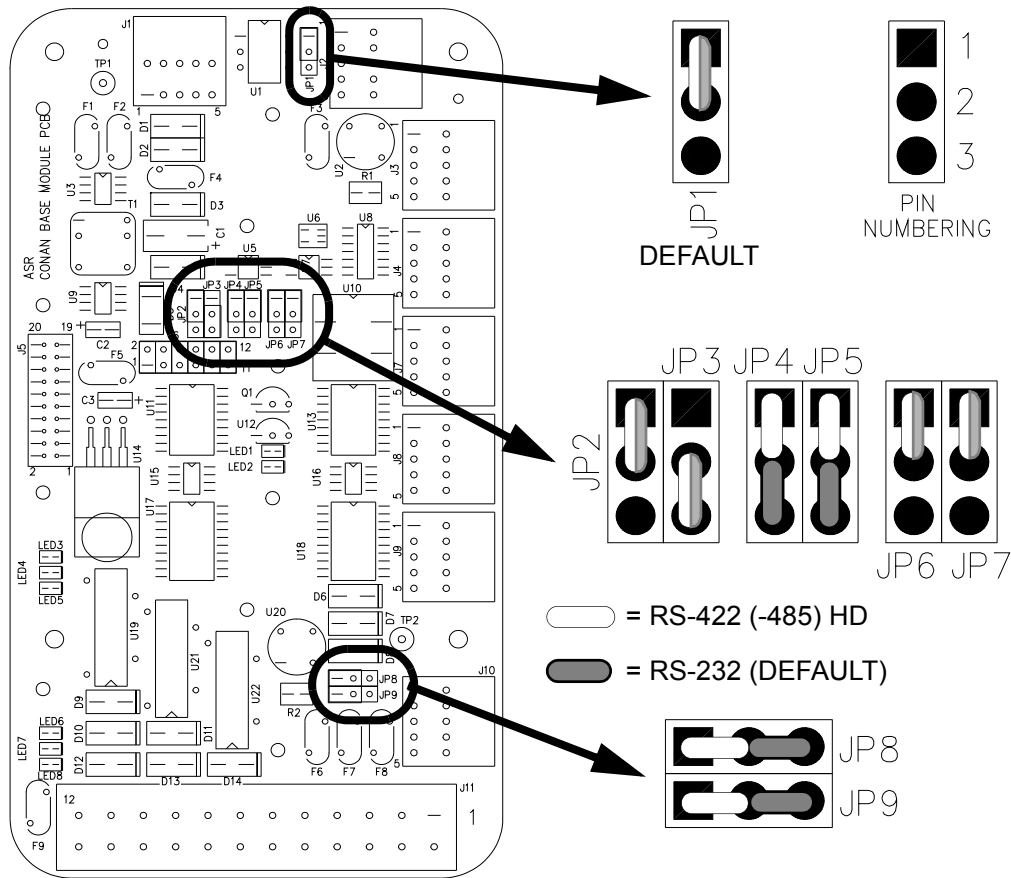

Figure 13 Telemetry jumper settings
2. Remove the three SHCS (37) and washers (38), and separate one of the actuator controller boards from the base module/SCU PC board (36). Repeat for the second board.
3. Set the jumpers on the base module/SCU PC board for the desired telemetry option using Table 6 and Figure 13. This telemetry option must match the telemetry option set on the master controller PCB (RS-232 or RS-485).